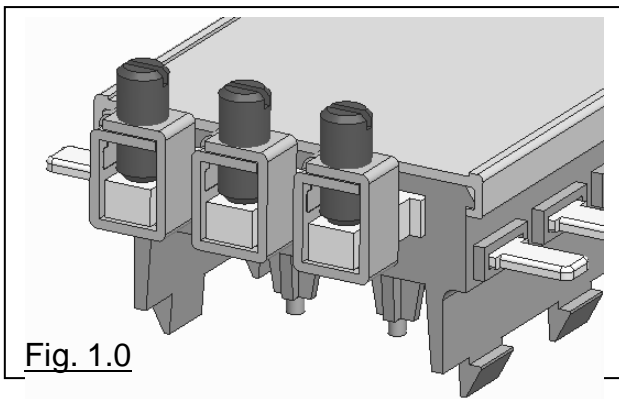

Fig. 1.0
- Using **18LDK70** cable kit terminal cages, from the top of the busbar, connect the Voltage loom to the bottom of protection fuses. See fig 1.0